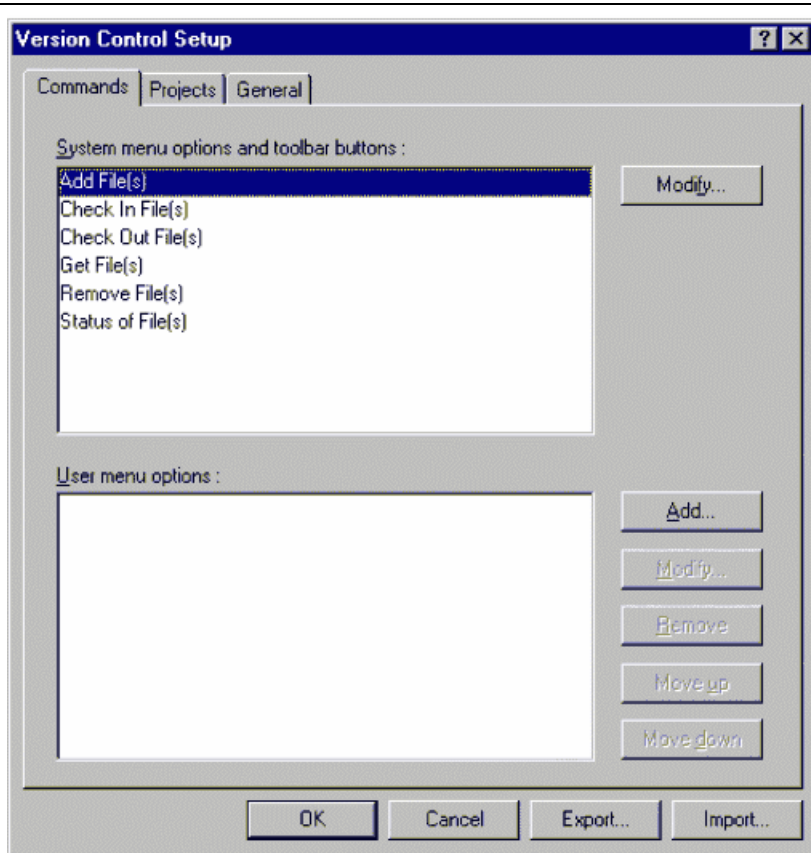
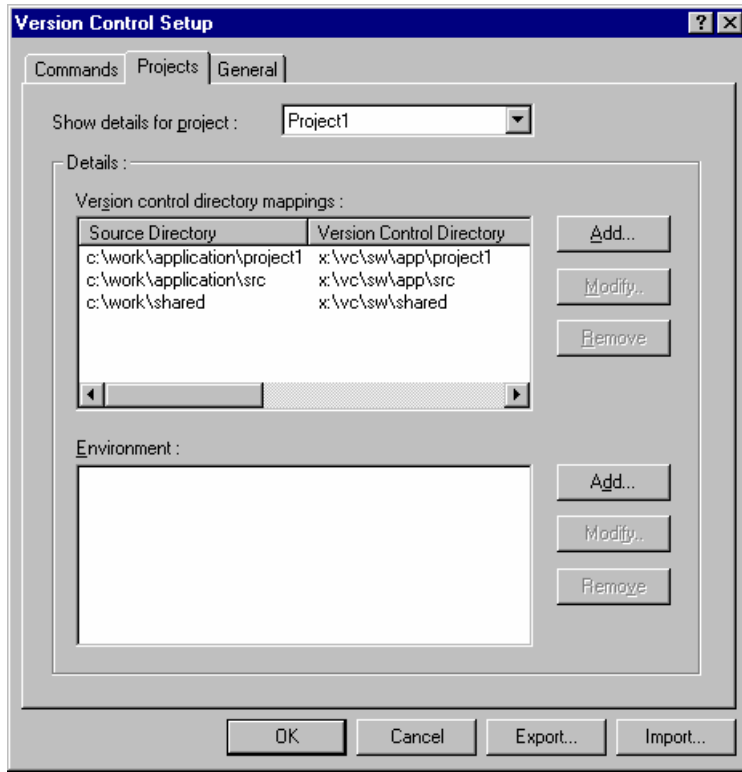

Figure 8.1: Version Control Setup Dialog Commands Tab
Figure 8.7: Version Control Setup Dialog Projects Tab
The custom version control support allows you the most flexibility in specifying how a version control system is to be used. To configure it, select **[Version Control->Configure...]**. The “Version Control Setup” dialog will be displayed (figure 8.1).
1. Select **[Version Control->Configure...]**. The dialog shown in figure 8.1 will be displayed.
1. Select [**Version Control->Configure...**]. The dialog shown in figure 8.1 will be displayed.
However, when executed, this command can only ever get the file MAIN.C. To resolve this problem, HEW uses a system of placeholders and directory mappings. The latter tell the HEW which "working" directories (i.e. where source files are being worked on) map to which "controlled" directories (i.e. where the source files are stored in the version control system). Mappings between these two directory systems can be specified via the "Projects" tab of the "Version Control Setup" dialog (figure 8.7).
1. Select **[Version Control->Configure...]**. The dialog shown in figure 8.1 will be displayed. Select the “Projects” tab, and the dialog shown in figure 8.7 will be displayed.
1. Select **[Version Control->Configure...]**. The dialog shown in figure 8.1 will be displayed. Select the “Projects” tab, the dialog shown in figure 8.7 will be displayed.
Select the “Projects” tab of the “Version Control Setup” dialog to view the current settings (figure 8.7).